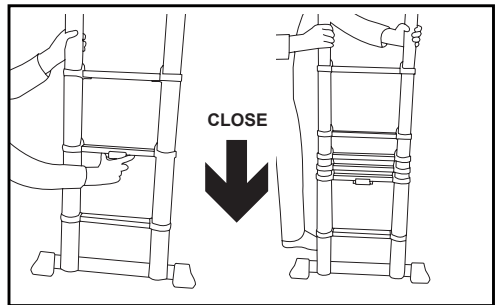

Figure 6
- 3.1 Stand and support the open / extended product upright by firmly holding one of the stile tubes part way up the ladder with one hand and then using your other hand, fully depress and then release both ladder lock release buttons (see figure 6) to unlock the lowest extended ladder section (note that the ladder sections will not descend / self-close when these buttons are depressed).